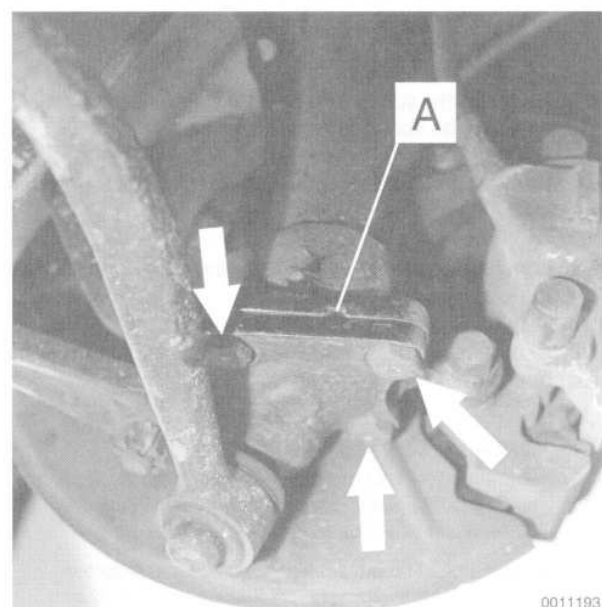

Fig. 4. Strut-to-steering arm mounting bolts (arrows). Note mating notch (A) when installing steering arm to strut assembly.
6. Remove the strut-to-steering arm mounting bolts. Pull the steering arm off of the strut assembly. See Fig. 4.
10. Install the steering arm to the strut assembly, making sure the mating notches are aligned (see Fig. 4). Use Loctite 270® or equivalent on the bolts before installing.